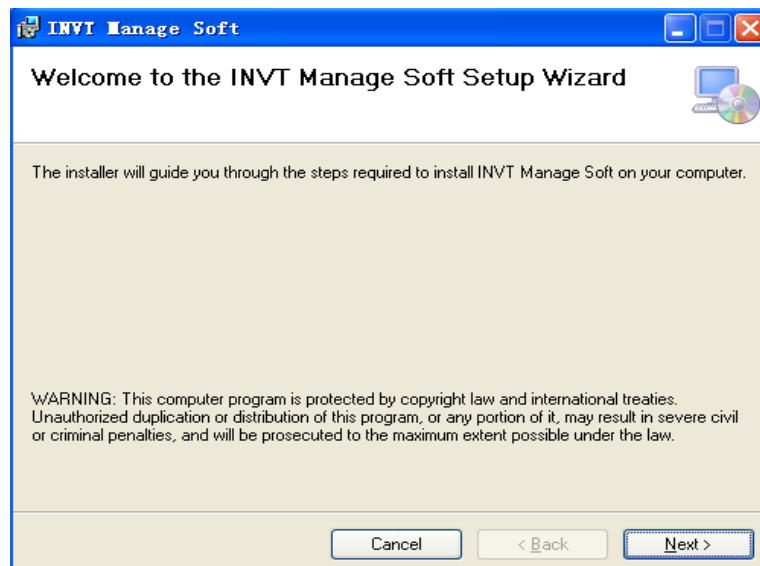

fig.3 Installation wizard
3、 After the installation of the components, the beginning of the installation of monitoring software, as shown in fig.3. According to the installation wizard, press the "Next" to install.